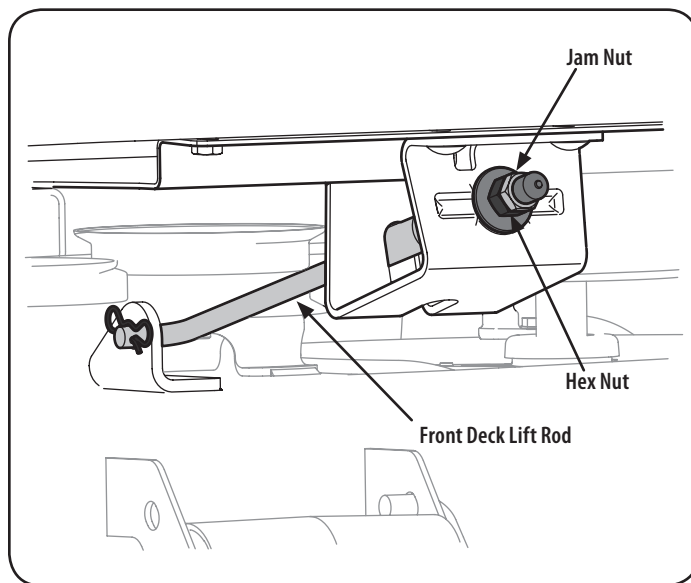

Figure 27
5. Using a wrench, loosen the jam nut first, then raise or lower the front of deck by turning hex nut on the front deck lift rod. See Figure 27.